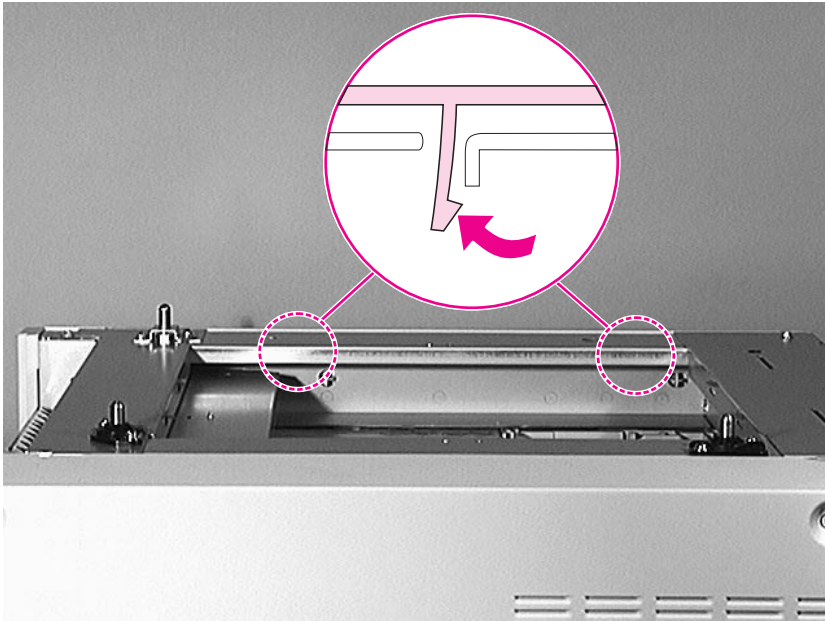

Figure 6-91 Front Top Cover (2 of 3)
- 4 From inside of the unit release the central tabs, as shown in figure 6-91.